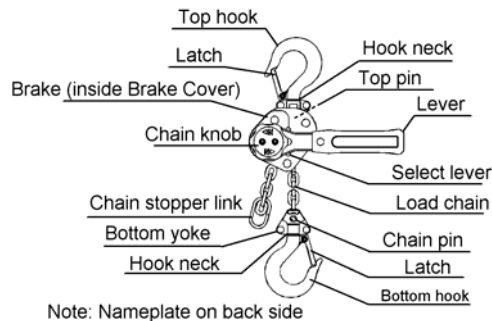

Figure 1-1 Schematics
- Always ensure that the load chain, the chain pin, the top pin, the hook necks, the hook latches and the select lever are well oiled. Refer to Figure 1-1.
- 1) After removal of (33) Socket Head Cap Screw, (34) Conical Lock Washer and (31) Chain Knob, turn (32) Lever Clamping Plate counterclockwise to detach the plate from the slot of (37) Female Thread, and remove the plate and (35) Free Chain Spring.
- 2) Remove (38) Free Chain Plate and (39) Cam Guide from (16) Pinion.
- 3) Set the select lever (refer to Figure 1-1) on (36) Lever Assembly to "DN."
- 4) By turning (36) Lever Assembly counterclockwise approximately two times with the no-load side of (5) Load Chain pulled lightly, the assembly is removed from the hoist's body.